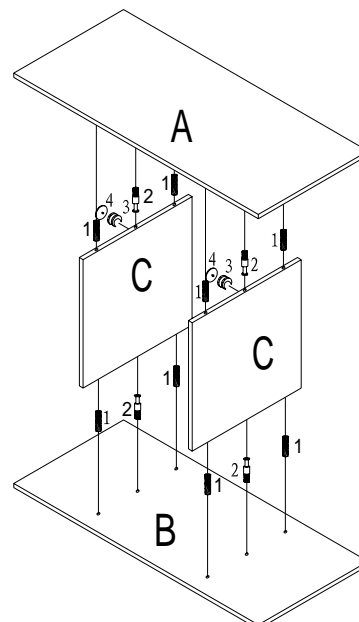

FIGURE 2
4. INSERT WOOD DOWELS (1) AND CAM-BOLTS (2) INTO PREDRILLED HOLES ON INSIDE OF DIVIDER AND RIGHT SIDE PANEL (B, A) AND FIT INTO CORRESPONDING HOLES ON ENDS OF FIXED SHELVES (C). INSERT CAM-LOCKS (3) INTO BIG HOLES ON UNDERSIDE OF FIXED SHELVES (C) WITH SLOT FOR SCREWDRIVER FACING OUTWARD. ROTATE CAM-LOCKS (3) CLOCKWISE TO SECURE CAM-BOLTS (2). PUSH COVERS (4) INTO CAM-LOCKS (3). AS FIGURE 2 SHOWN.